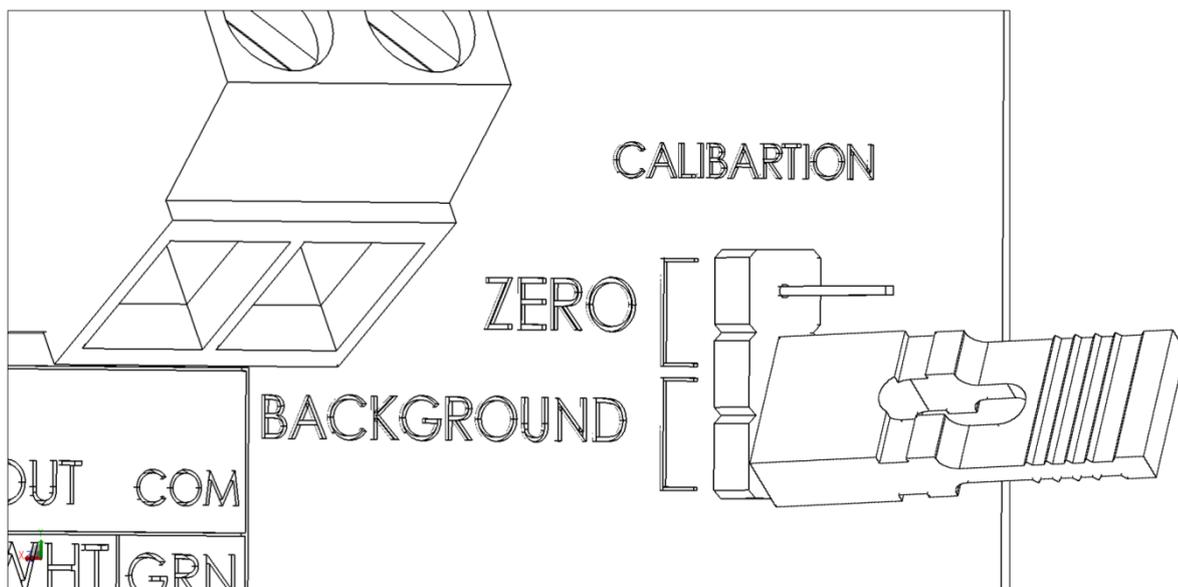

Figure 13: Shorting the Background Jumpers
5. Using the supplied jumper, short the Background jumpers for 10 seconds as shown in Figure 13.